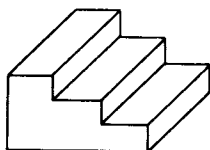

Fig. 3.54
2. Make three-view sketches of each of the articles shown in Figs 3.54, 3.55, 3.56, 3.57, 3.58 and 3.59 using (a) first-angle projection (b) third-angle projection.